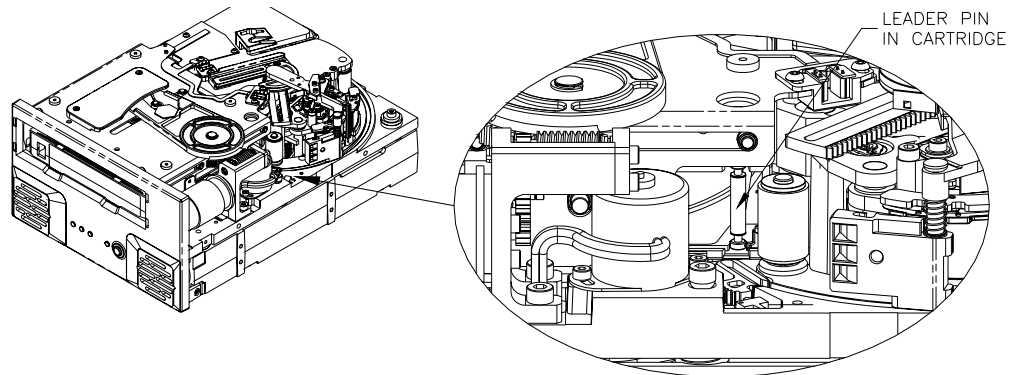

Figure 16. Diagram of Viper 200 showing leader pin inside LTO cartridge (tape *not* threaded on take-up hub)
- Case 1: The cartridge is loaded and the leader pin is still in the cartridge (see Figure 16). Follow the procedure on page 32.
1. Verify that the leader pin is still inside the cartridge as shown in Figure 16. If the leader pin has been pulled out of the cartridge and is still in the tape path, follow the steps in ***Case 2: Cartridge is loaded and tape is partially threaded*** on the following page.